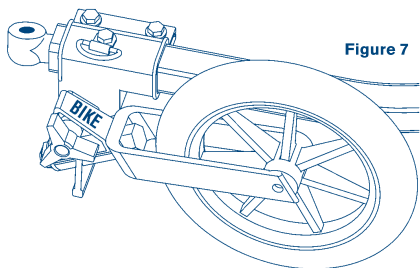

Figure 7
1. Engage parking brake and tighten knob to secure stroller wheel in "Bike" position. **Figure 7**